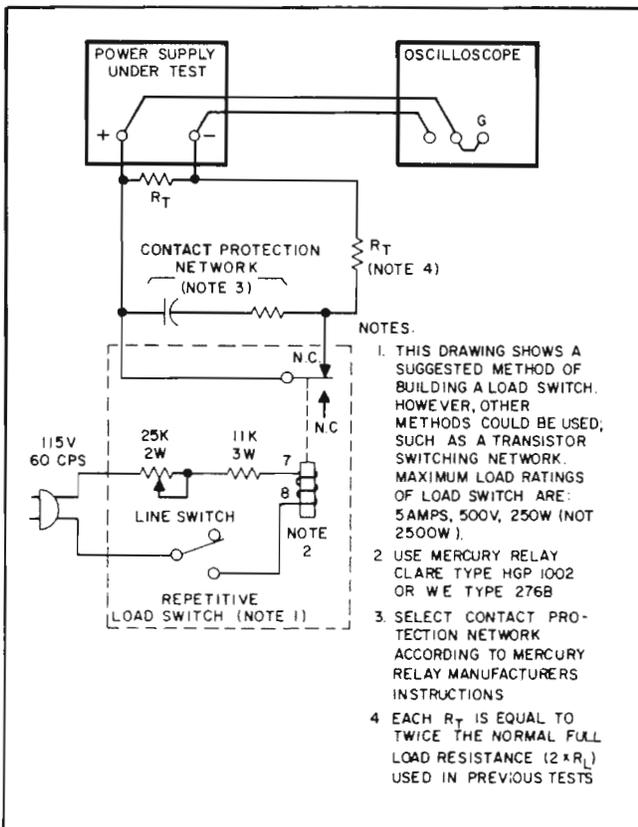

Figure 5-4. Load Transient Recovery Time, Test Setup
5-23 ± 11.4 to ± 15.75 -Volt Outputs. To test the load transient recovery time, a repetitive load switch with a fast switching time is required for loading and unloading the supply. Figure 5-4 shows one way of constructing one using a relay with mercury-wetted contacts. When this load switch is connected to a 60Hz ac input, the mercury relay opens and closes 60 times per second. The $25k\Omega$ control adjusts the duty cycle of the load current switching to reduce jitter in the oscilloscope display. This load switch can also be used with a 50Hz ac input.
- a. Connect test setup as shown in Figure 5-4. Each load resistor (R_T) is twice the normal full load resistance.
5-25 **5-Volt Output.** The mercury-wetted relays recommended for use in the repetitive load switch described in Figure 5-4 have a maximum current limitation of 5 amps. For this reason, some other type of repetitive load switch with a higher current capacity is required for testing the load transient recovery time of the 5V output. The use of a solid state electrical load with pulse modulation capabilities such as the Transistor Devices Dynaload DLP 50-60-1000 is one way to avoid the rise time and switching noise limitations of mechanical switches at currents above 5 amps.
- a. Connect test setup as shown in Figure 5-4, but in place of the load switch and contact protection network shown, substitute a solid state repetitive load switch with a current capacity of at least half of the supply's rated output and a rise time of less than 100 microseconds. (Since the supply's recovery time is specified for a change between half and full load, the switch conducts only half of the supply's rated output.) Each load resistor (R_T) is twice the normal full load resistance.